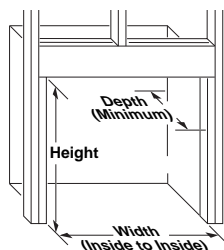

Figure 8 - Rough Opening for Installing in Wall
1. Frame in rough opening. Firebox framing should be constructed of 2 x 4 lumber or heavier. Use dimensions in Table 1 and rough opening layout in Figure 8, page 12. Adjust framing so that firebox flushes with finished wall surface. If installing in a corner, use dimensions in Figures 8 and 9, page 12 for rough opening.